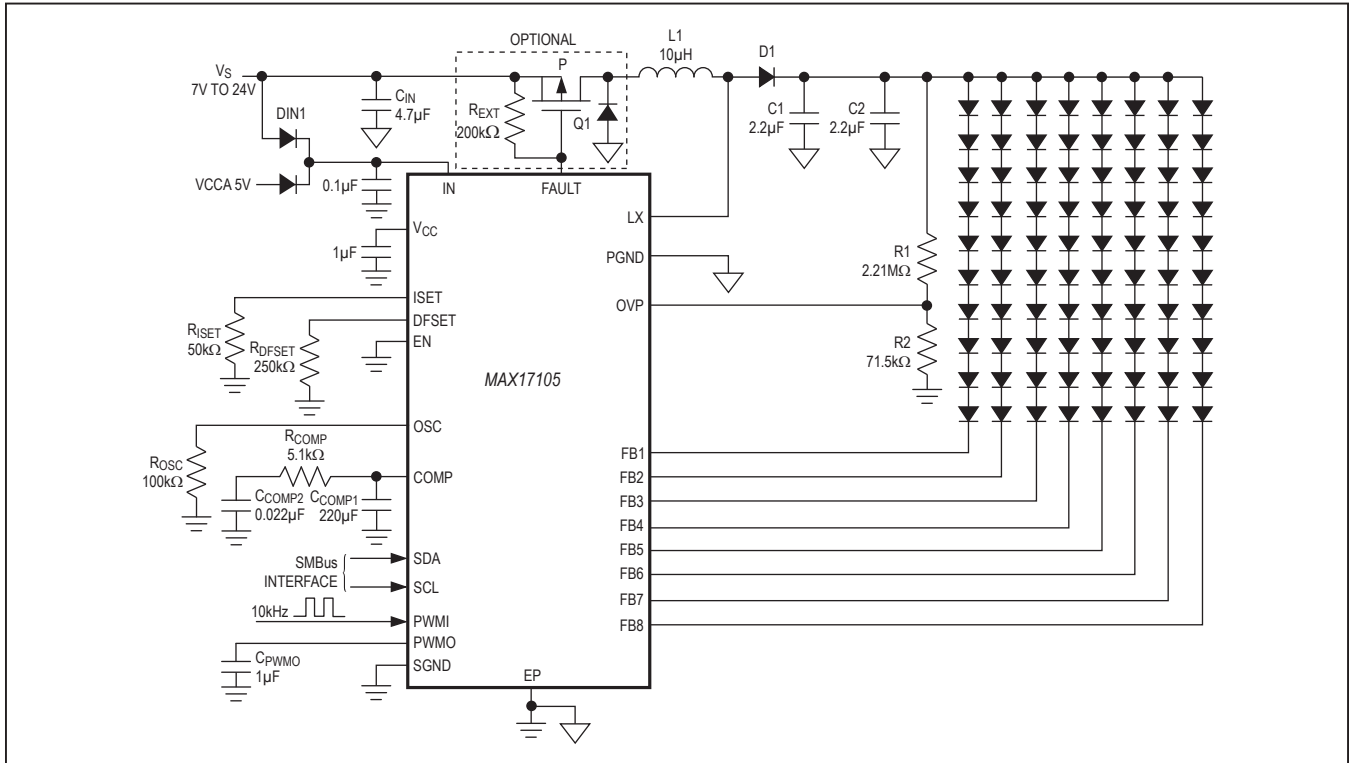

Figure 1. Typical Operating Circuit
Circuit of Figure 1. $V_{IN} = 12V$, $C_{COMP} = 33nF$, $R_{COMP} = 1k\Omega$, $R_{ISET} = 50k\Omega$, $R_{OSC} = 100k\Omega$, $R_{DFSET} = 250k\Omega$, $PWMI = SGND$, $C_{PWMO} = 1\mu F$, $T_A = -40^{\circ}C$ to $+85^{\circ}C$, unless otherwise noted. Typical values are at $T_A = +25^{\circ}C$.) (Note 2)
- Note 4:** Minimum voltage drop from V_S to IN pin, including the forward voltage drop of diode DIN1 used in Figure 1, should be no less than 0.8V. If lower forward voltage drop diode is used, upon step-up regulator input V_S removal, an OC fault may occur, resulting in SMBus status register OV_CURR and $FAULT$ bits being set to 1 and violating SMBus specifications.
The MAX17105 typical operating circuit is shown in Figure 1. Table 1 lists some recommended components, and Table 2 lists the contact information of component suppliers.